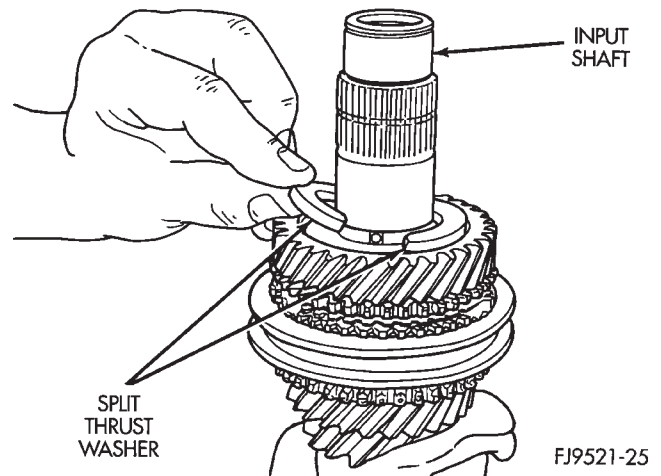

Fig. 101 Split Thrust Washer Installation
- (8) Install split thrust washer onto input shaft (Fig. 101).